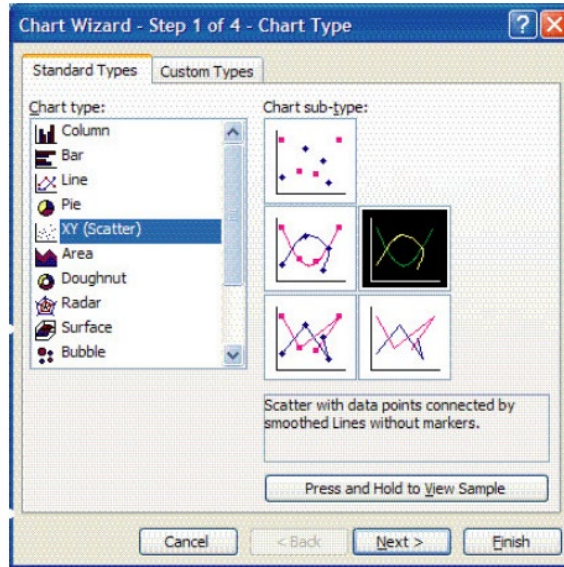

Figure 13. Chart Wizard – Step 1 window
5. Click the **Chart Wizard** button on the **Task Bar**. The **Chart Wizard** should open, as shown in Figure 13.
6. Choose the **X-Y (Scatter)** chart type and the **Smoothed Lines Without Markers** sub-type. Click **Finish** to display a graph of the spectrum, as shown in Figure 13.